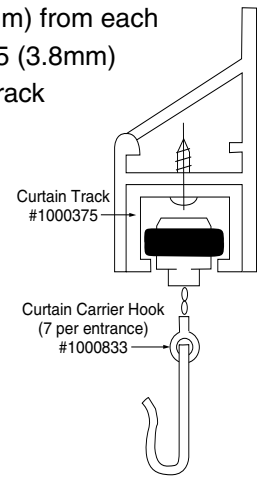

Fig. 7a: Headrail Installation Hardware. Corner Configuration
- For corner and alcove layouts, cut return headrail. Measure from the inside edge of front headrail to the back wall (See Fig. 7a and 7b).
- Connect the return headrail to front headrail with headrail bracket and four (4) #1002499 screws.
- For corner layouts, install #1000978 end cap to finish the corner. Using the end cap as a template, mark and drill pilot hole, then secure end cap with one (1) #1002499 screw.
- Fasten front headrail to stile by drilling pilot hole, then secure to stile with one (1) #1002499 screw.